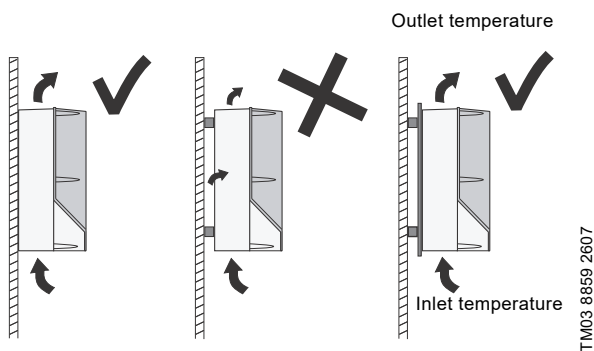

Fig. 48 CUE hung directly on the wall or fitted with a back plate
- Hang the CUE cabinet directly on the wall, or fit it with a back plate to secure sufficient air flow for cooling. See fig. 48.
ΔT is the difference between the outlet temperature and the inlet temperature (ambient) of the cooling air. See fig. 48.